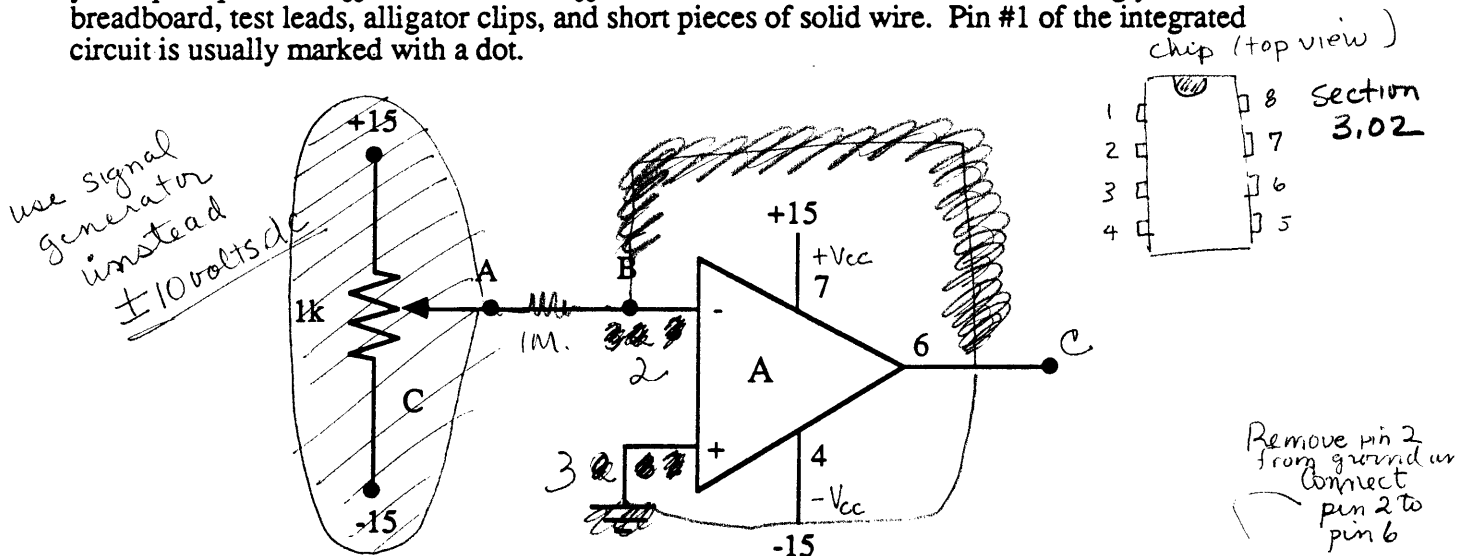

Figure 1 - Basic open loop high-gain op amp
- (1) Build the simple circuit shown in Figure 1 using an LM741. Attempt to measure the dc input voltage at point A and the dc output voltage at point C with your DMM. Record any results you get in Table 6.1. *Adjust your dc input to result in a dc output at approx. 5 volts*
- (2) Replace the short between A and B with a 1M resistor. Measure the dc voltage drop across this resistor with your DMM. Record your results in Table 6.2.